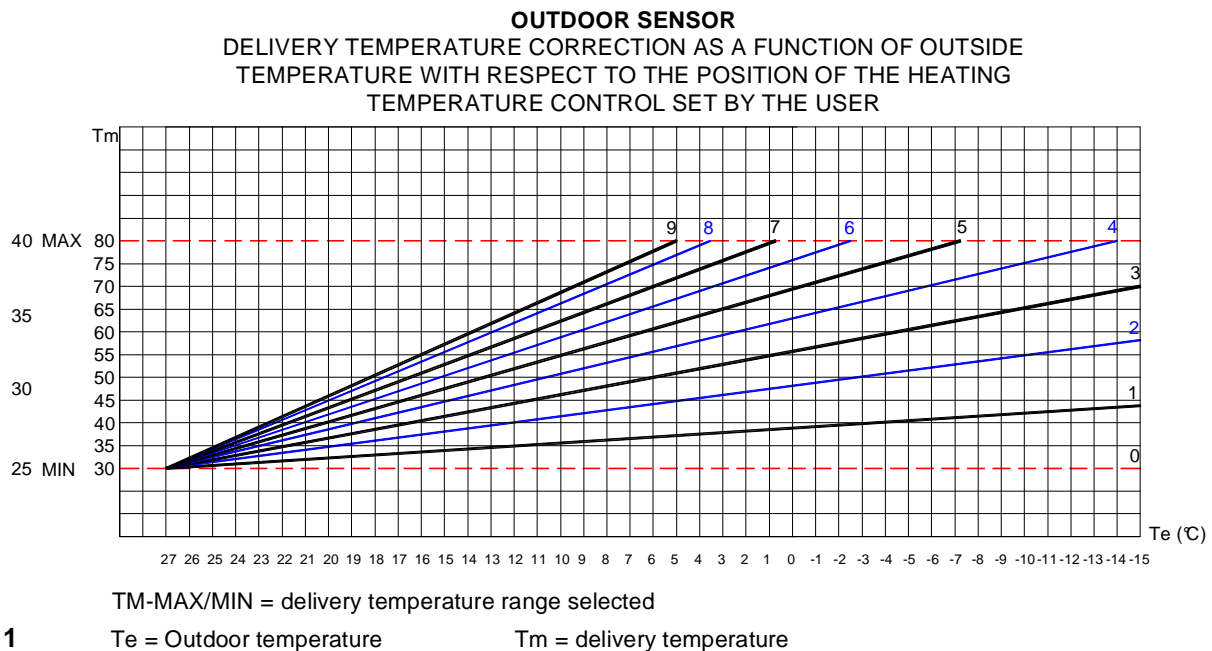

Fig. 1
- In case of outdoor temperature sensor only installation, the climatic compensation curve is set using the central heating control knob. As the knob (see fig. 2) is rotated, the numbers corresponding to the curve shown in figure 1 are displayed
The factors governing the correction is reported in figure 1.